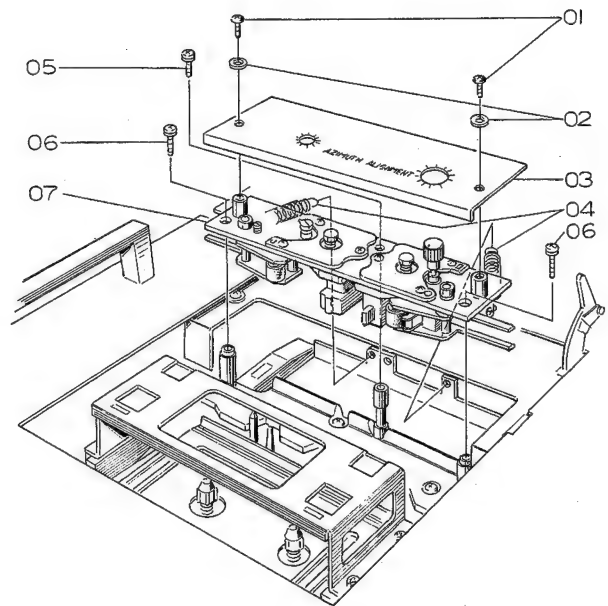
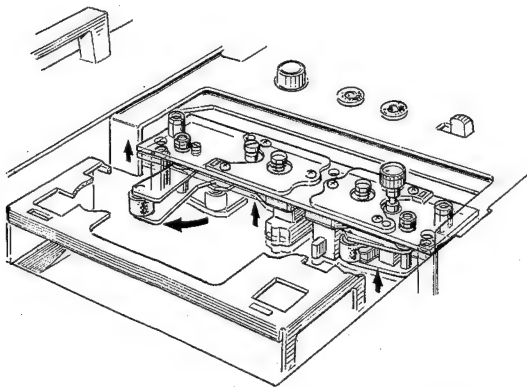

Fig. 5.8 Head Mount Base Ass'y Removal
Fig. 5.9 Head Mount Base Ass'y Removal
- (1) Remove the cabinet and separate mechanism ass'y 1000II.
- (2) Remove the adjustment lid and cassette lid.
- (3) Referring to Fig. 5.8, disassemble the mount base cover (03) by removing screws and washers (01,02).
- (4) Remove screws 05 and 06 (two places).
- (5) Referring to Fig. 5.9, lift up the head mount base ass'y (07 in Fig. 5.8) for about 3 mm high, then rotate the take-up side of the pressure roller arm ass'y as shown in the figure.